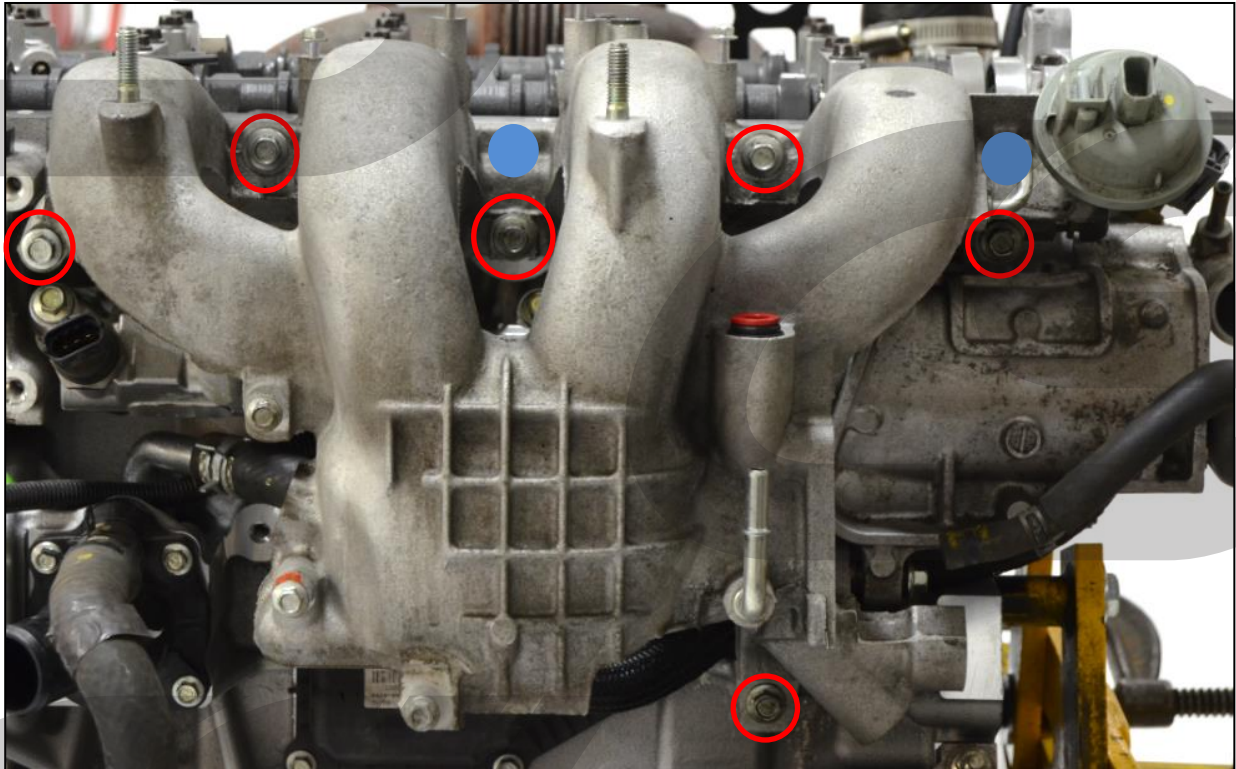

Figure 5c
- a) Remove the intake manifold with a 10mm socket wrench and 4" extension, shown with **red circles** in **Figure 5c**. Alignment pins are located at the **blue dots**.